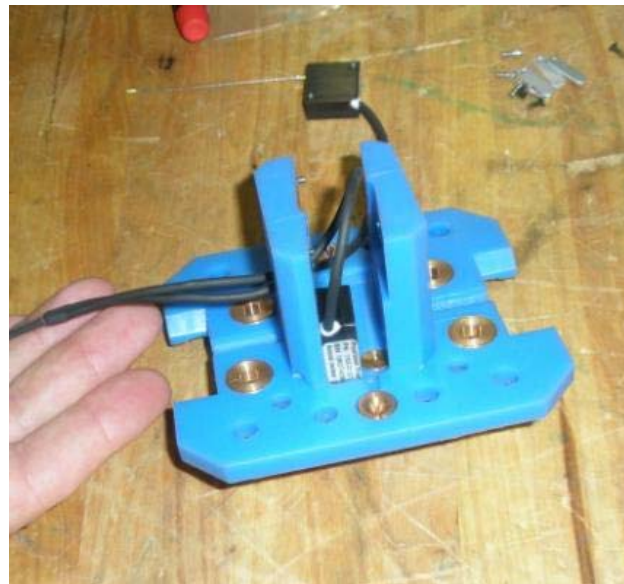
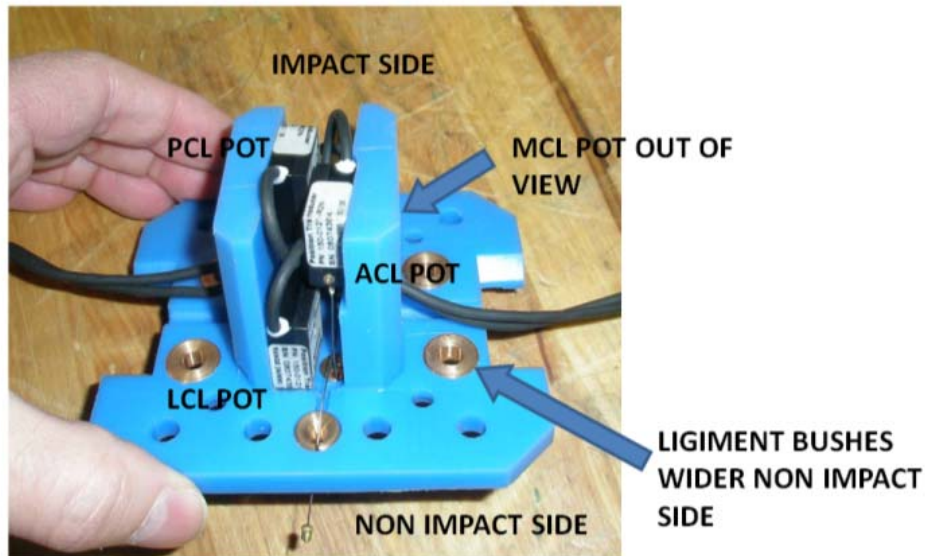
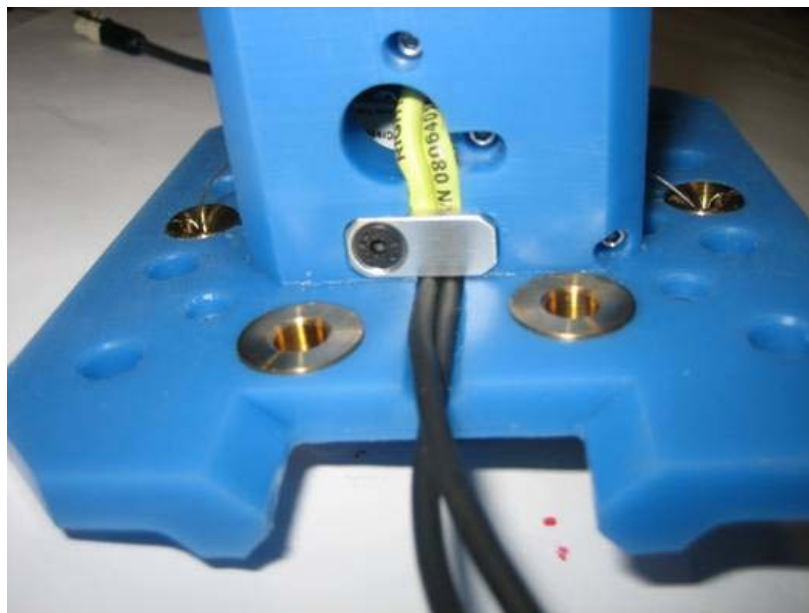

Figure 62 . Meniscus string pot assembly wire feed
Figure 63 . Meniscus with all string pots assembled. String pots identified
Figure 64 . Meniscus wire clamp
Referring to Meniscus assembly (133-5313) feed the connector of one of the right hand (RH) pull string pots through the inner side of one of the central holes, see Figure 62. The RH and the LH string pots can be identified from the serial number; the RH has an R at the end of the number and the LH an L. The two RH pull string pots are positioned closest to the main flange of the meniscus, one is shown fitted in Figure 62. Attach the string pot with the #2-56 x ¼ long cap head screws making sure the pull wire is directed towards the furthest away outer bronze bush. Fit the other RH pull string pot in the same way on the opposite side. Pass the pull wires through their designated bushes see Figure 63. Carry out the same procedure with the Left hand pull string pots, the pull wires are directly in line with the two inner bushes. Feed the pull wires through the bushes. Make sure electrical wires are inside the cavity as much as possible then run cables through channels both sides and clamp with retaining plate see Figure 64. Fit assembly to knee block bottom ensuring pot wires are in their grooves. The threads of the four M5x10 low head cap screws used to retain the meniscus will need to have low strength thread lock applied. This will prevent the screws coming lose when in service.